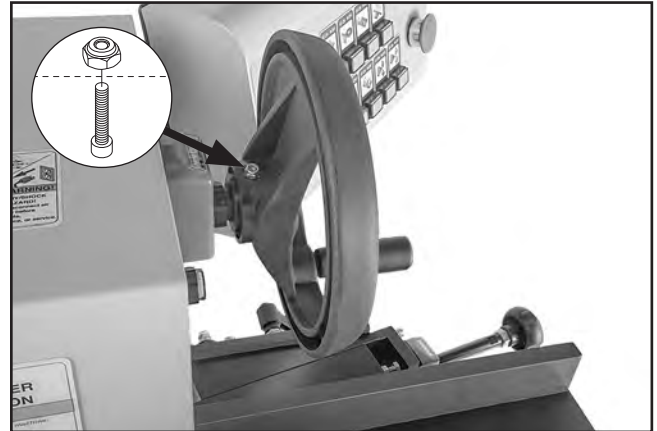

Figure 18. Panel feeder height handwheel installed.
2. Install handwheel on panel feeder elevation shaft (see **Figure 18**), and secure with cap screw and lock nut removed in **Step 1**.